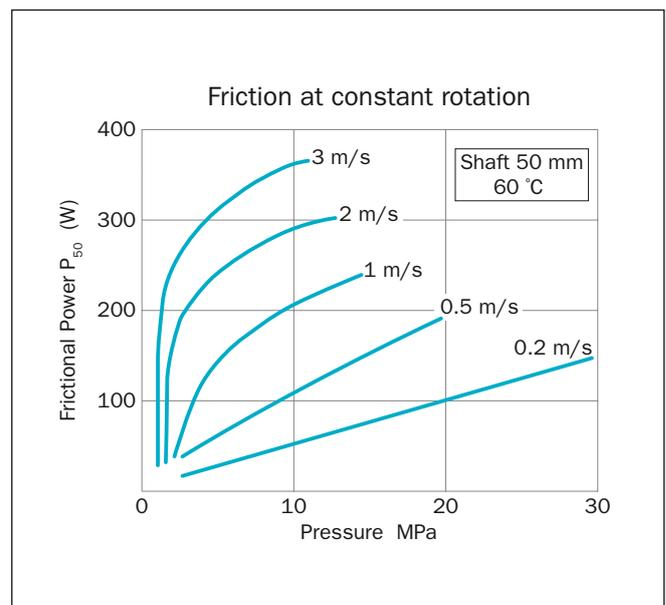

Figure 151: Frictional power for Turcon® VL Seal® F
Guide values for the frictional power (P) can be determined from the graph in page Figure 151. They are shown as a function of the sliding speed and operating pressure for a shaft diameter of 50 mm with an oil temperature of 60 °C. At higher temperatures, these application limits must be reduced.